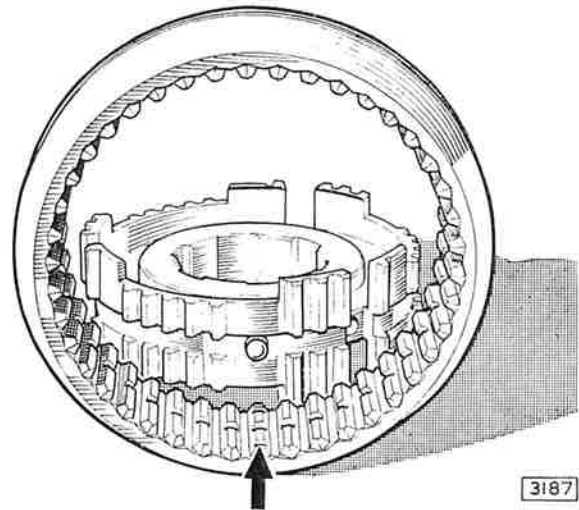

Fig. 10. *Fitting the synchro hub in the sleeve.*
- (ii) The three ball and springs in line with the teeth having three detent grooves (see Fig. 10).